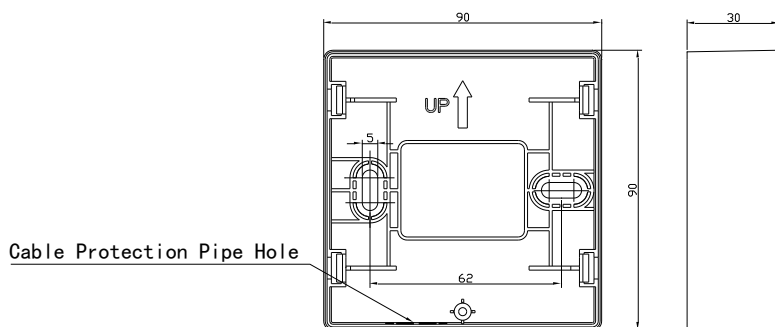

Fig.7
A special base is necessary during the installation of a manual call point. As shown in Fig.7, the external dimensions, the mounting hole diameter and the mounting hole spacing of the special base are 90mm  $\times$  90mm  $\times$  30mm (L  $\times$  B  $\times$  H), 5mm and 58mm  $\sim$  66mm respectively. The cable protection pipe goes through the mounting hole from the bottom of the special base.
1. Use two M4 screws to fix the matched mounting base on the designated position via the mounting holes A and B shown in Fig.7, as instructed in the construction drawing, and make sure the matched mounting base has been firmly installed.